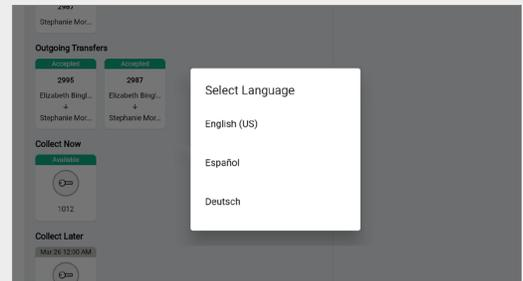

Fig. 136 – Select your preferred language from the list
3. In the **Select Language** window, select your preferred language from the list, as shown in Fig. 136.